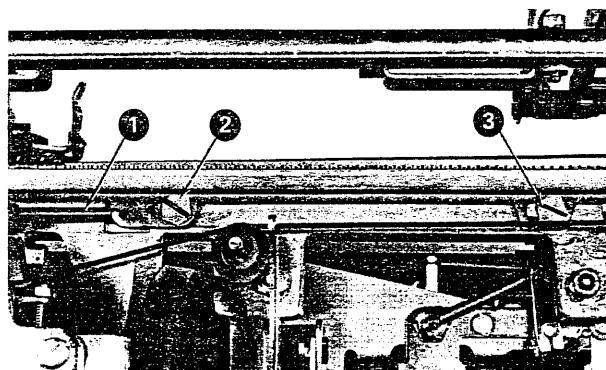

Figure 4-40. Backspace-Rack Removal
2. Remove the backspace-rack spring (No. 1, Figure 4-40).
3. Remove the three backspace-rack mounting studs (No. 2, Figure 4-40), one of which is not shown, and remove the rack.